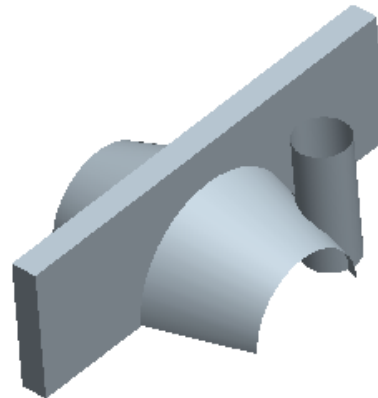

Figure 13-95 Model after creating the fill surface
6. Exit the **Sketcher** environment and then exit the **Fill** dashboard by choosing the **Build Feature** button. The Fill surface is created as shown in Figure 13-95.